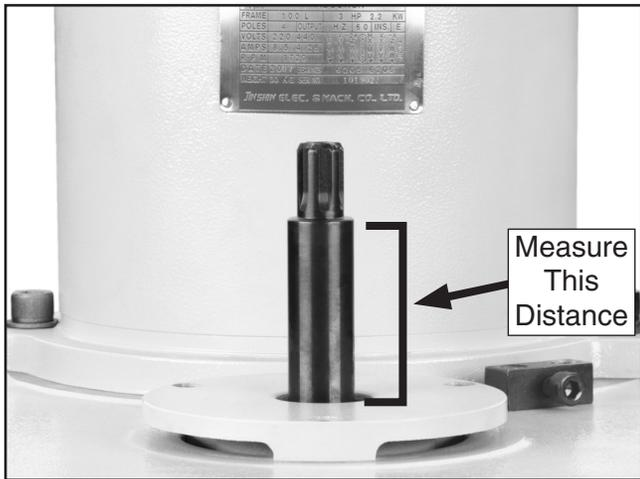

Figure 6. New bolt head inserted in the mill for measurement.
4. Insert the new bolt head into the top of the spindle, then measure the distance from the top shoulder of the bolt head to the mounting surface of the motor assembly (see **Figure 6**).